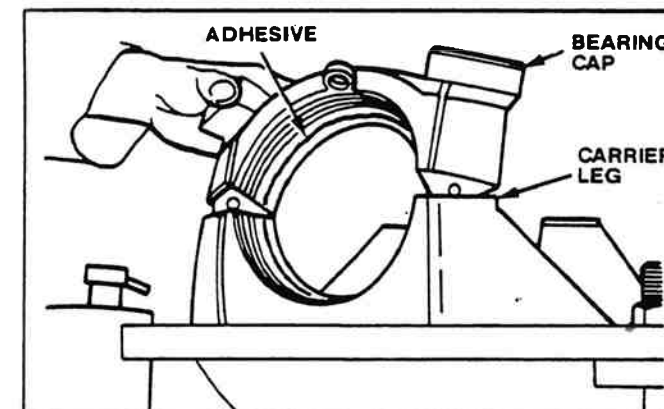

Figure 2-36. Applying Adhesive To Bearing Bore.
3. Apply a single continuous bead of the adhesive to the bearing bores in the carrier and bearing caps. Apply the adhesive 360° around the smooth, ground surfaces **only**. **Do not** put adhesive on threaded areas (Figure 2-36).